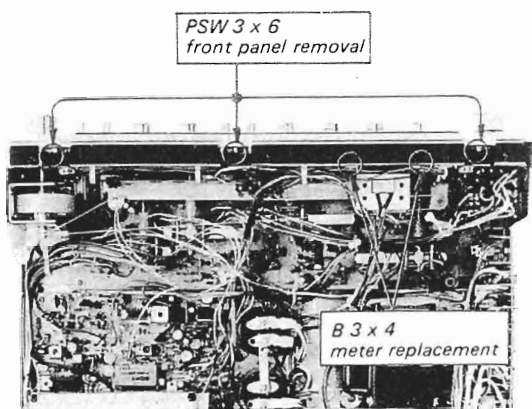

Fig. 2-2. Front panel removal and meter replacement
3. Remove the three screws shown in Fig. 2-2. This frees the front panel.
1. Remove the meter lamp shade by removing the two screws shown in Fig. 2-2.